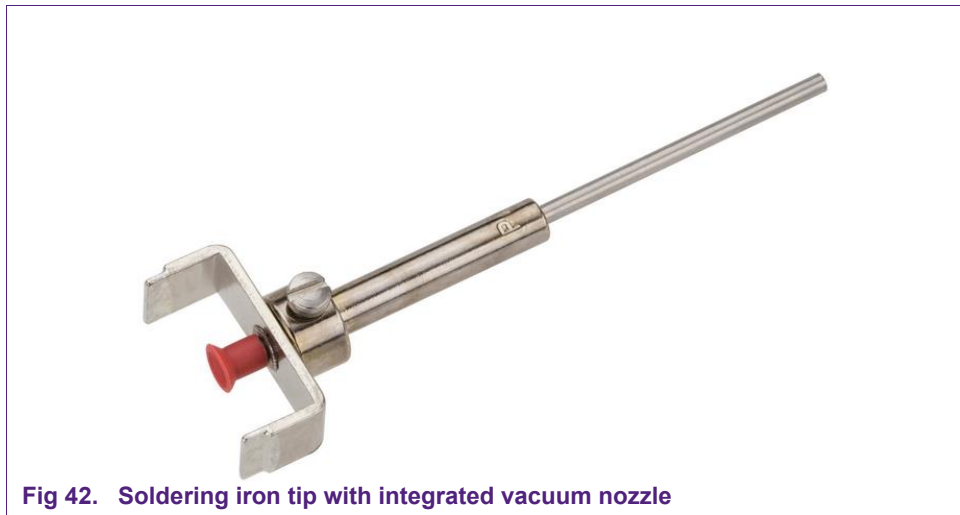

Fig 42. Soldering iron tip with integrated vacuum nozzle
- Remove the old package using a specially designed soldering iron tip. The tip may have two parts pressing down on the two leads at the same time, and leave room in the middle for a nozzle to lift the component. Example of a special soldering iron tip is shown in Fig 42.